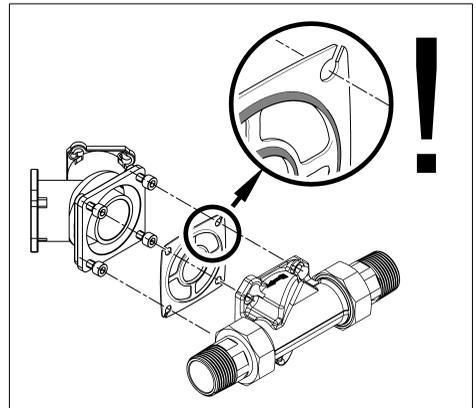

Fig. 3: Profile flange seal
- Check whether the profile of the profile flange seal is pointing toward the rotary flange fitting (see fig. 3).